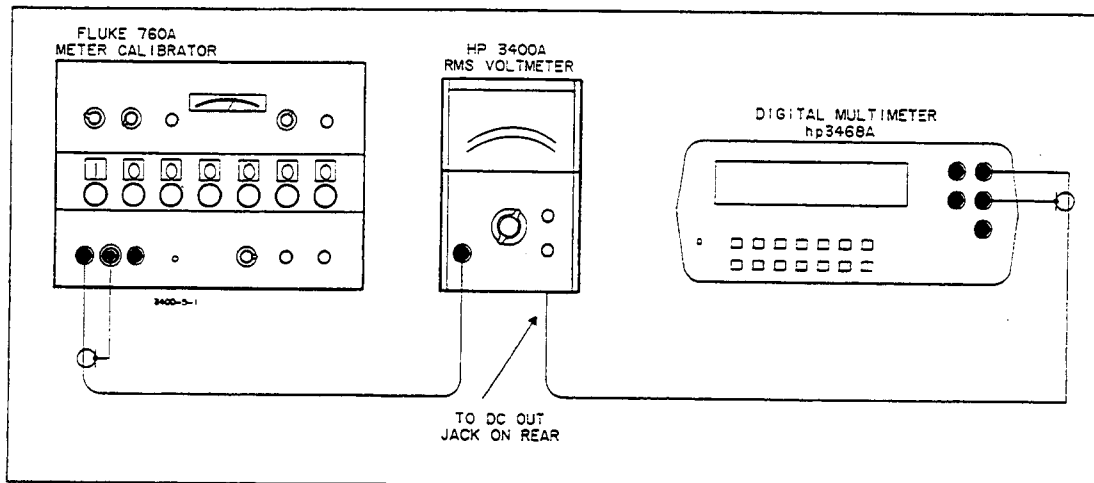

Figure 5-1. Accuracy, Linearity, and DC Output Test Setup
5-8. The accuracy, linearity, and dc output test set-up is illustrated in Figure 5-1. A Meter Calibrator Fluke Model 760A and a Digital Multimeter -hp- Model 3468A/B are required for this test.
- a. Connect test setup illustrated in Figure 5-1.
- a. Connect test setup illustrated in Figure 5-1; omit the DC Voltmeter.
- Connect test setup illustrated in Figure 5-1; omit the DC Voltmeter.